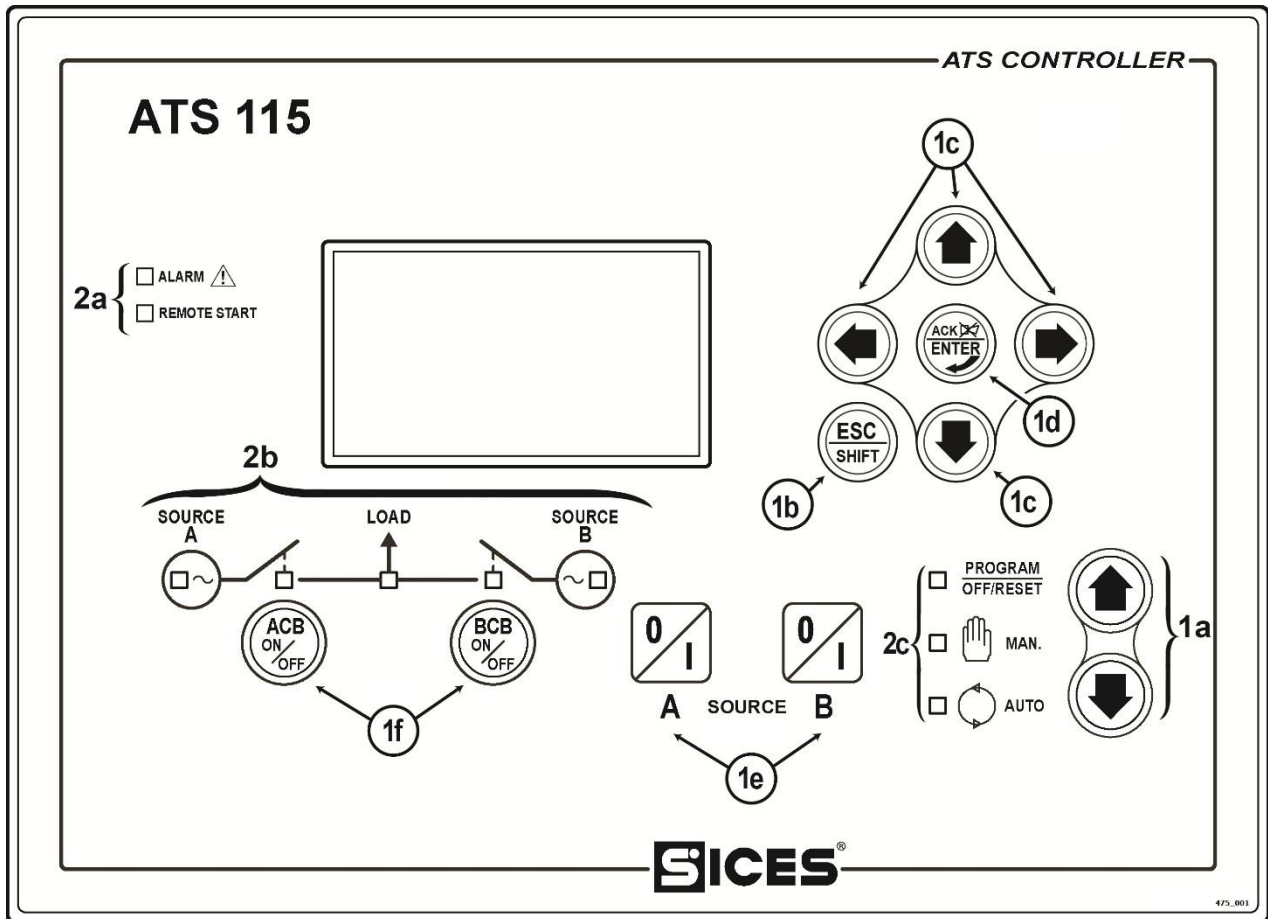

Fig. 1 – ATS115 Front Panel
11.2 Pushbuttons (ref. to fig. 1)
11.3 Indicators (ref. to fig. 1)